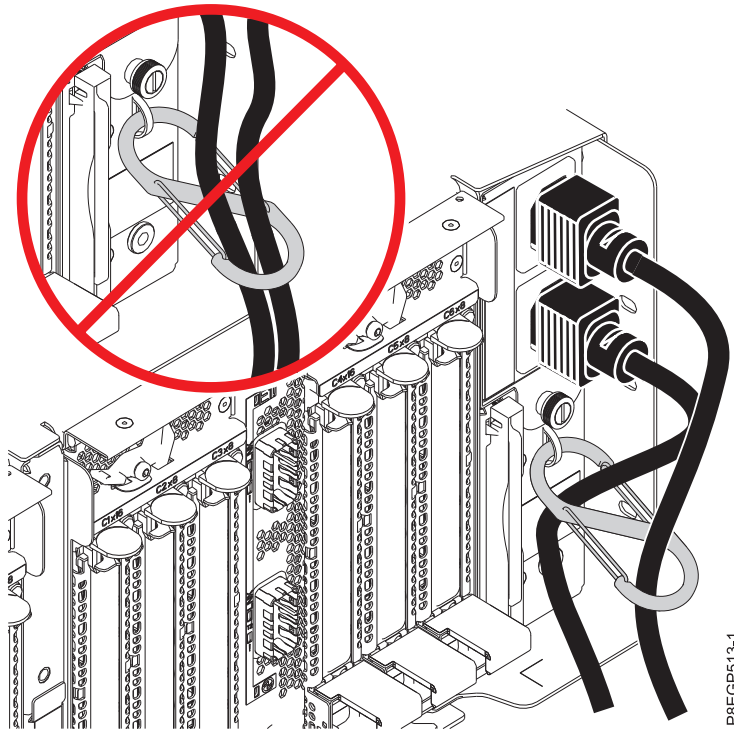

Figure 20. Routing the power cables through the s-carabiner and connecting them to the power supply
- b. Route the power cables through the s-carabiner so that the cables clear the PCIe3 6-slot fanout module or modules. See Figure 20 on page 25.
- c. Connect the other ends of the power cables into the power supplies on the EMX0 PCIe3 expansion drawer you are installing. See Figure 20.